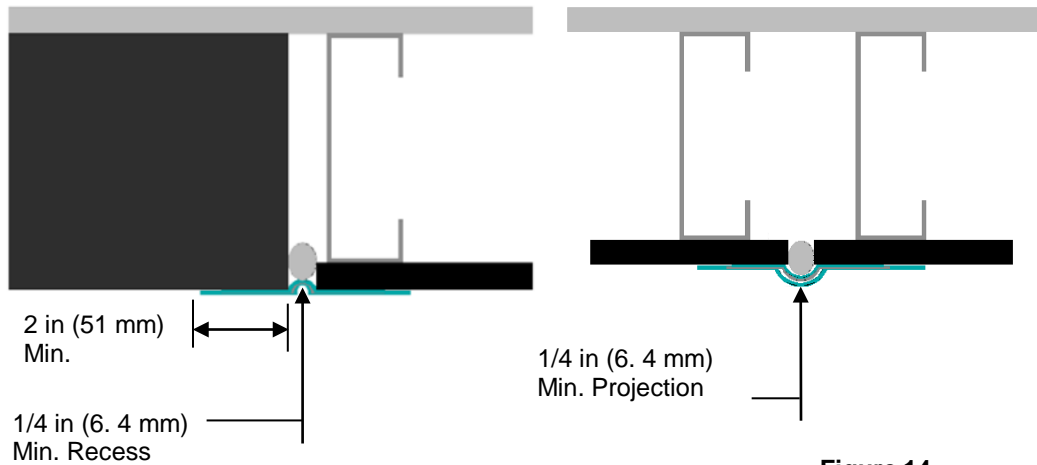

Figure 14
- 1. The width of the AquaFlash Mesh must overlap each side of the joint a minimum of 2 in (51 mm) - Figure 14.